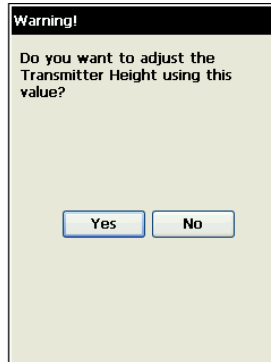

Figure A-11. Adjust Transmitter's Height
3. tap **OK**, then tap **Yes** at the *warning* screen to adjust the transmitter height using the results (Figure A-11). The offset will be automatically added to the transmitter's height.